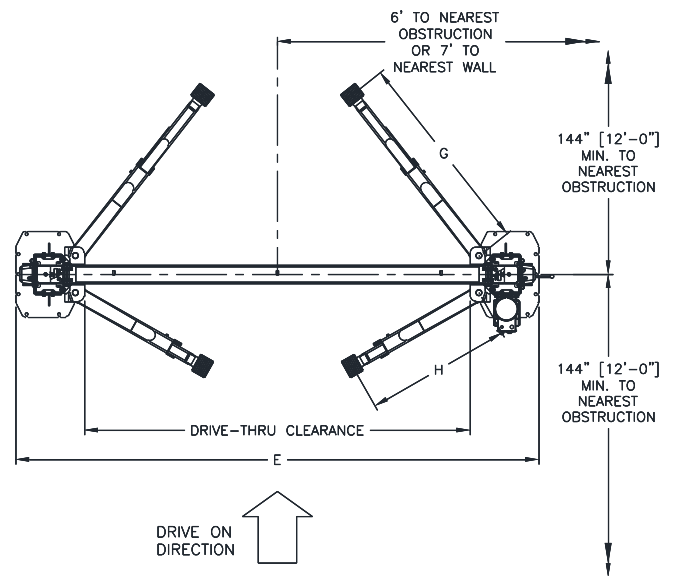

Fig 1b - Service Bay Layout
- Layout the service bay according to the architect's plans or owners instructions (**see Fig 1b**). **Failure to install in this orientation can result in personal and property damage.** Be certain that the proper conditions exist, see page 3.